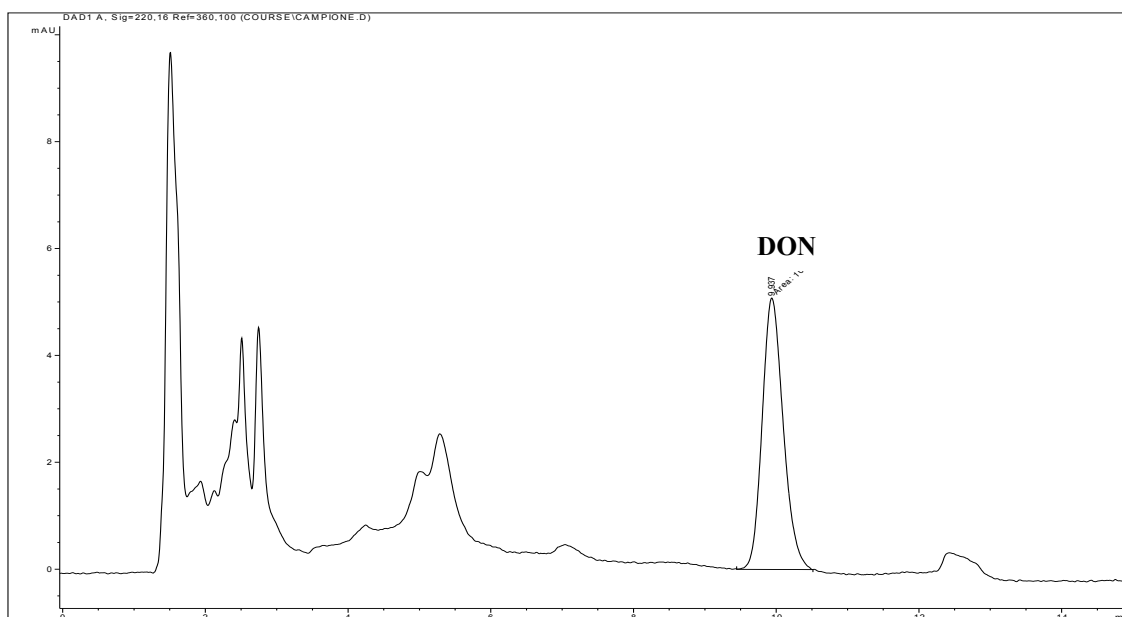

Figure 1. Chromatogram relevant to a naturally contaminated wheat sample containing 1020 µg/kg of DON.
- **HPLC analysis.** Inject 50 μ L of reconstituted extract (equivalent to 0.05 g wheat) into the chromatographic apparatus using the mobile phase at a flow rate of 0.5-1.0 mL/min. The exact amount of methanol used in the mobile phase and the flow rate will depend on the HPLC column chosen for analysis and shall be adjusted if necessary to achieve good separation of DON. The following chromatographic conditions have proved to produce adequate separation (see Figure 1).
Using the HPLC conditions shown above, DON usually elutes with a retention time of about 10 min (see Figure 1).